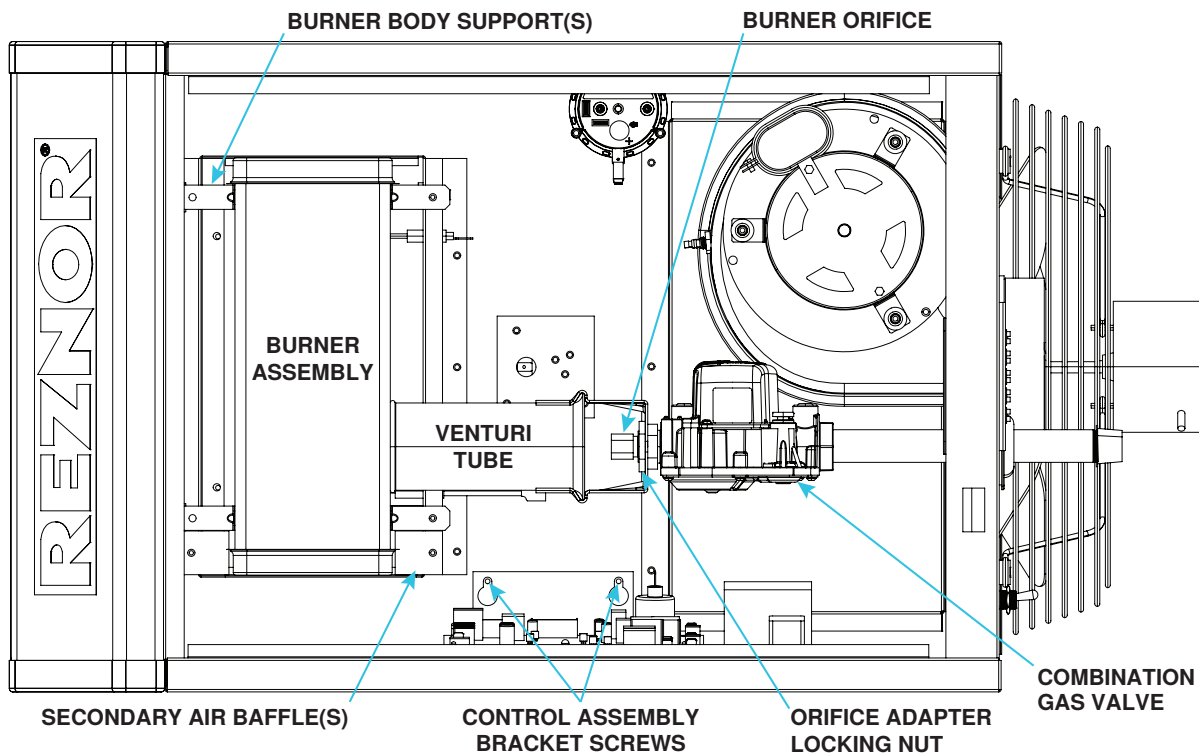

Figure 23. Burner Compartment (Typical)
Visually inspect the burner compartment (see Figure 23). If there is an accumulation of dirt, dust, and/or lint, clean the compartment and remove and clean the burner as follows:
2. Remove burner assembly (see Figure 23):
5. Re-install burner assembly (see **Figure 23**):